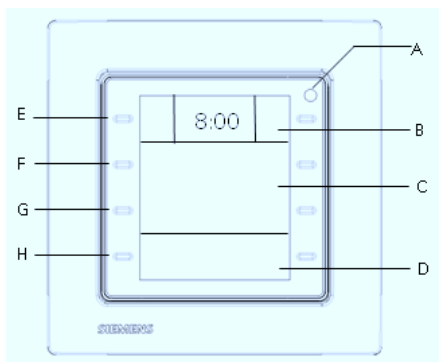

Figure: 1
LED display (see Figure 1):
Operation and display (see Figure 1)
The programming mode is accessed by simultaneously pressing the B and B` buttons for at least 5 seconds in system setting pages. Button A` in the topmost line is used to activate or deactivate the programming mode. The LED (Figure1, (A)) lights up in red and displays the activated programming mode. The LED is extinguished when the physical address is adopted and the programming mode ends. The device restarts after.